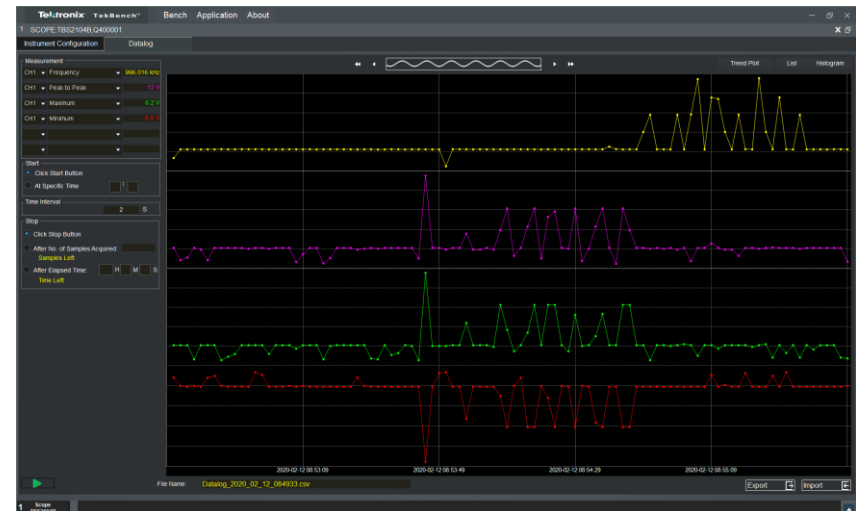

Figure 38. TekBench datalogging can track multiple measurements
8. Slowly **change the output parameters** of the AFG31000 i.e. (Amplitude, frequency, offset) and watch the measurements change on the software (Figure 38).